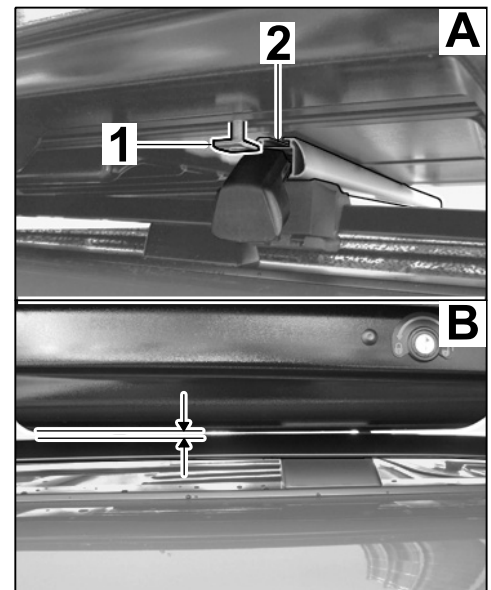

Figure 4
4.2 Open the cap of the roof transport system (front/rear) on this side (⇒ Owner's Manual, section on 'Roof Transport System') and fit roof box 320 on the roof transport system (⇒ Figure 4).
4.3 Check the position of the next sliding block (T-bolt, M8 x 55) with respect to the groove in the roof transport system carrier and align it as required (⇒ Figure 4 -A-).
When fitting the roof box, make sure there is enough space between the floor of the roof box and the roof of the vehicle/upper edge of the roof rails (⇒ Fig. 4 -B-)! Re-position the roof box on the carrier bars if necessary.